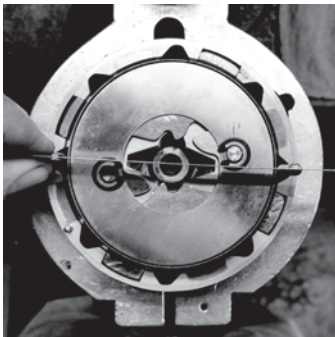

Fig. 8
8. Install the advance assembly end plate and reuse the e-clips that were removed in step one. Use a straight edge to align the limit plates with the base retention studs as show (Fig. 8). Align the drive on the base assembly with the stud holes in a similar fashion. Carefully install the base assembly onto the magneto making sure not to use force if binding is felt. This may take several attempts due to everything having to be lined up in such a particular way. Once the base is installed and seated firmly against the magneto housing install one set of retaining nuts and check the end play of the drive shaft to make sure there is no binding. There should be a minimum of .005" of end play. If there is insufficient end play, shims must be added, or subtracted to correct the situation. Finally install the remaining base nuts.